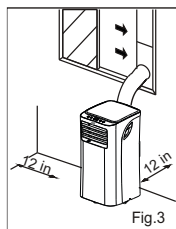

Fig.3
- Allow at least 12 inches of space from the wall for efficient air-conditioning. Fig.3.